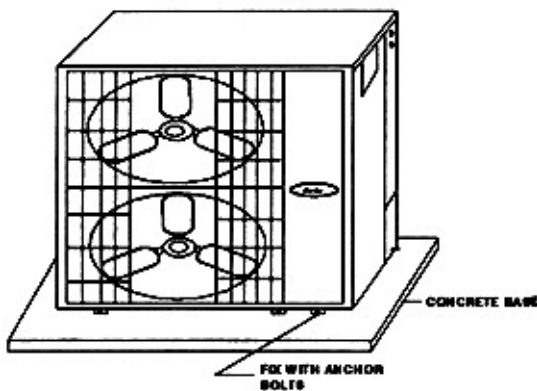

FIG. 4 GROUND MOUNTING
1) MOUNTING ON GROUND: Mount on a solid, level concrete base. If conditions or local building codes require unit to be fastened to base, tie down bolts should be used and fastened through slots provided in unit's mounting feet. (Fig. 4). Do not install unit directly on ground.